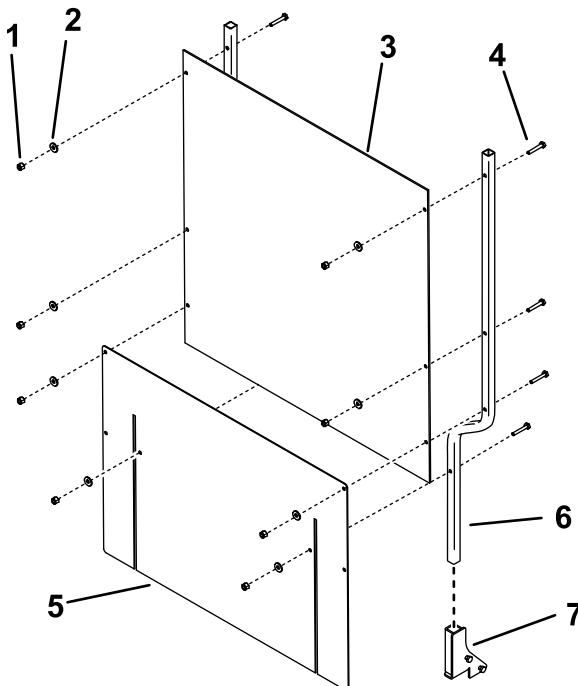
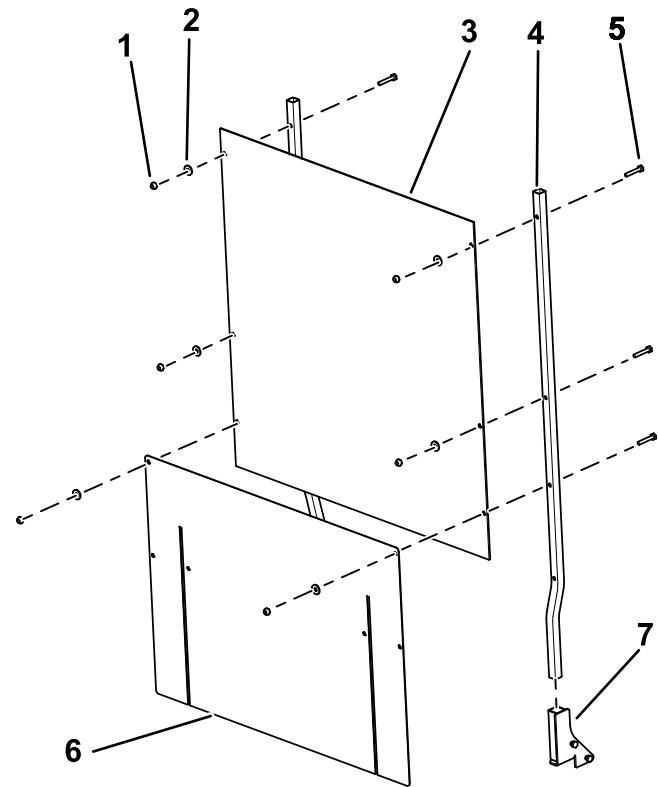

Figure 9
Figure 10
1. Slide the shield supports into the pockets in the shield brackets on the traction unit (Figure 8, Figure 9, or Figure 10).
2. Assemble the shield and flexible skirt to the shield supports as illustrated in Figure 8, Figure 9, or Figure 10 using 8 bolts (1/4 x 1-1/2 inches), 8 washers, and 8 locknuts (1/4 inch).